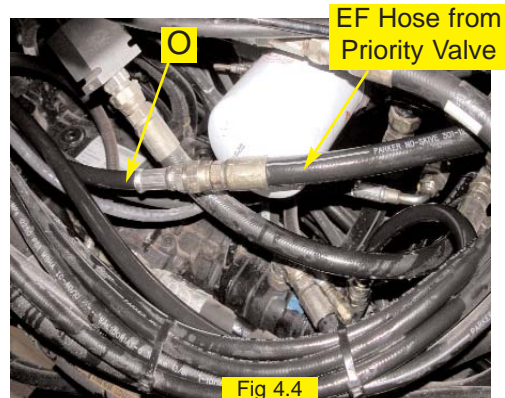
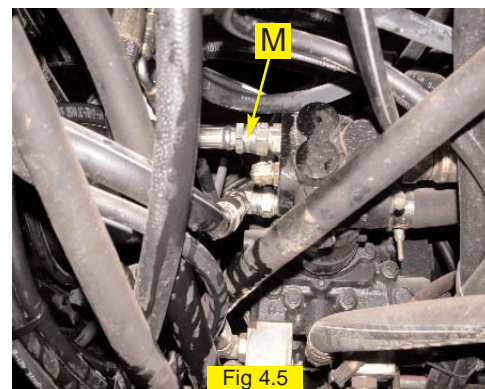
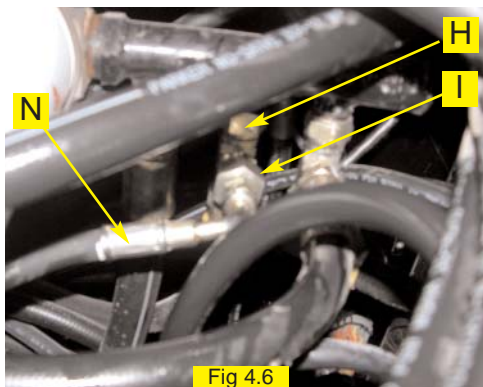

Fig 4.4
Fig 4.5
Fig 4.6
Install the provided excess-flow hose (O) to the EF port of the hydraulic control block and route it down near the priority valve. Remove the excess-flow line from the priority valve and re-route the hose to connect to the excess-flow hose (O) from the hydraulic control block. (Figure 4.4) Connect the provided pressure hose (M) between the P port of the hydraulic control block and the excess-flow port of the priority valve. (Figure 4.5) Connect the tank hose (N) between the T port of the hydraulic block and the branch of the run-tee (H) installed at the return-oil manifold using the provided adapter (I). (Figure 4.6)